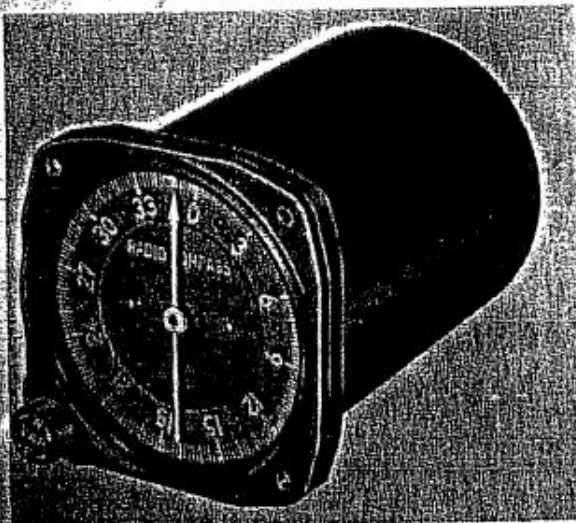

Figure 1-9. Indicator ID-90/ARN-6, ID-91/ARN-6, or ID-231/ARN-6
g. INDICATOR ID-90()/ARN-6 (Pilot's). (See figures 1-9 and 1-10.)—Indicator ID-90()/ARN-6 (Pilot's) is an autosyn driven device. It indicates the angular position of the autosyn transmitter located in the loop and gives the bearing of a radio transmitter when the loop is graduated every two degrees with every 30 degree graduation indicated by the proper numeral. The azimuth scale of the indicator may be manually rotated by means of the "VAR" knob located on the front of the indicator.